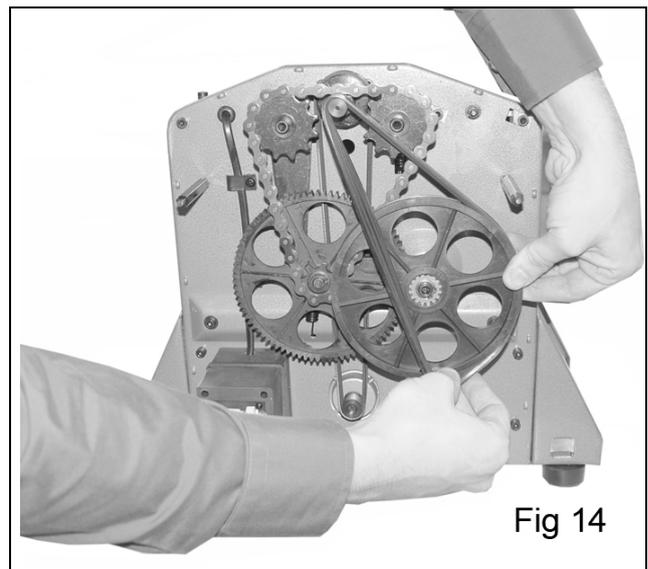

Fig 14
5. Rotate the large belt wheel by hand in a clockwise direction whilst guiding the belt on to the belt wheel shown in fig 14.